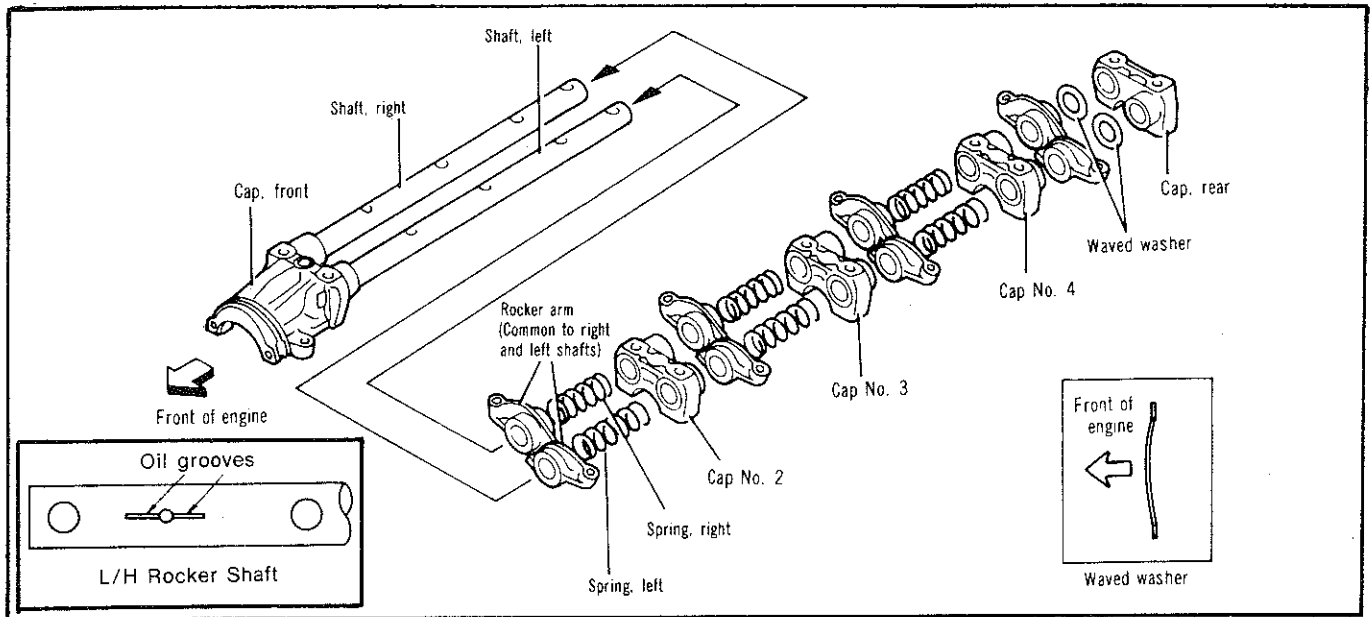

Fig. 39—Rocker arm shaft assemblies (belt drive camshaft type)
**NOTE:** As a running change the cast iron rocker arms were replaced with assemblies made from die cast aluminium plus the introduction of oil grooves in the L.H. rocker shaft (refer Fig. 39). The early rocker arms can be used on the later rocker shaft, the later type rocker arms **MUST NOT** be used on the early non grooved shaft.
must also be fitted onto the correct shaft, right hand shaft springs are shorter, left hand springs are longer. On later engines the shorter spring is used on both left hand and right hand shafts. The right hand shaft has 8 oil holes, the left hand shaft has 4 oil holes, on later engines fitted with aluminium rockers the shafts also have grooves at the oil holes. See inset Fig. 39.